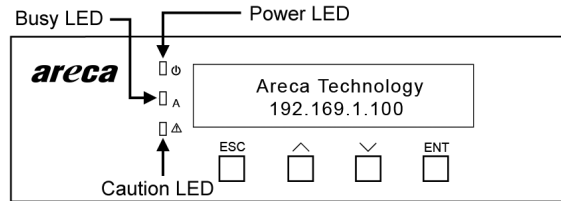

Figure 2-5, LCD Panel LED
There are a variety of status conditions that cause the SAN storage panel monitoring LED to light. The front panel LCD comes with three (3) status-indicating LEDs. The LEDs on the front panel are defined, from top to bottom, Power, Busy, and Caution, as shown in Figure 2-5.